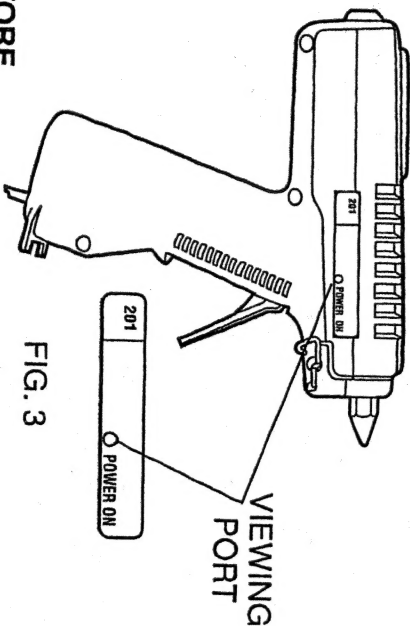

FIG. 3
4. You may check for ignition by viewing the flame through the viewing port on the right side of the unit. Look for the blue flame or the orange glow at the ignition wires inside of the heat exchanger. See Figure 3. (Although the flame is visible, it is fully contained and safe).